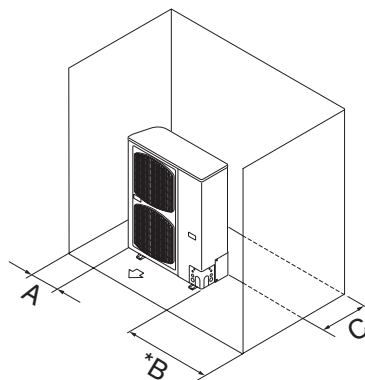

Fig. 2-13
- allow enough room around the unit for air intake/exhaust and possible maintenance. (Figs. 2-13, 2-14, 2-15)
(Fig. 2-13)